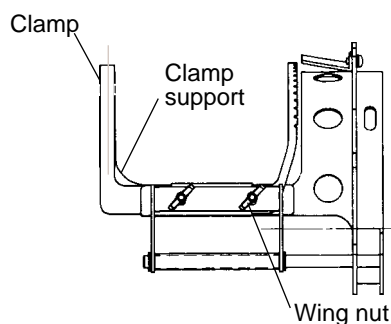

Fig. 2
2. Adjust the clamp to fit the clamp support. (Fig. 2)